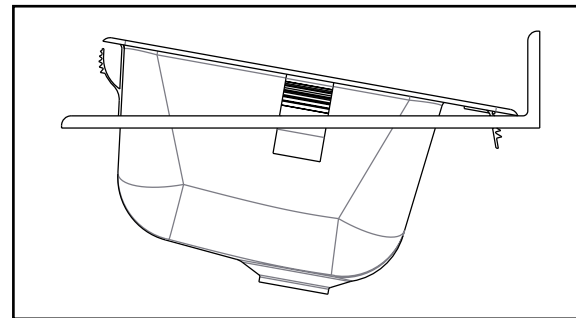

FIGURE 3. Place the sink in the hole at an angle.
- Place sink in hole at an angle. (Fig. 3)